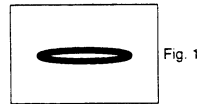

Fig. 1
4. While observing the Lissajous figure on the oscilloscope, insert the eccentric screwdriver into the centering adjustment hole for side B and adjust it so that the X-axis amplitude of the Lissajous figure is minimized (on-track position). Then turn the eccentric screwdriver clockwise further until the X-axis amplitude of the Lissajous figure becomes maximum. (Fig. 1)